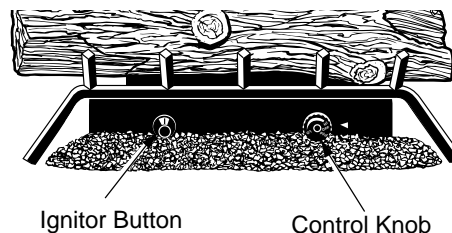

Figure 41 - Control Knob and Ignitor Button Location
4. Wait five (5) minutes to clear out any gas. Then smell for gas, including near the floor. If you smell gas, STOP! Follow "B" in the safety information, page 20, column 2. If you don't smell gas, go to the next step.
5. Turn control knob counterclockwise  to the PILOT position. Press in control knob for five (5) seconds (see Figure 41).